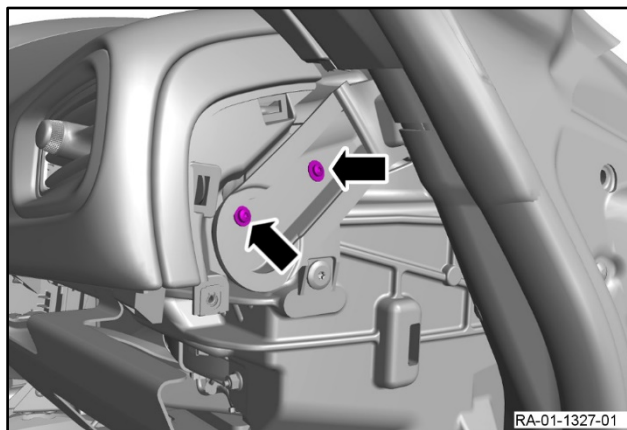

Figure 3
2. Remove the two screws that attach the duct for the door (refer to Figure 3).
8. Install the two screws that attach the duct for the door (refer to Figure 3).
5. Install the two screws that attach the duct feed for the door (refer to Figure 3).